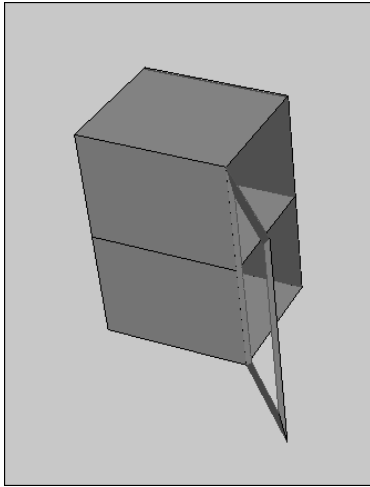

**Figure 23-6:** The completed kitchen cabinet, including a window in the door.
- 10.** Enter **edge** on the command line or in the Dynamic Input tooltip. At the Specify edge of 3dface to toggle visibility or [Display]: prompt, pick the edge between ❶ and ❷ and then the edge between ❸ and ❹. (A midpoint marker and SnapTip appear.) Press Enter. The edges disappear.
14. Save your drawing. It should look like Figure 23-6.